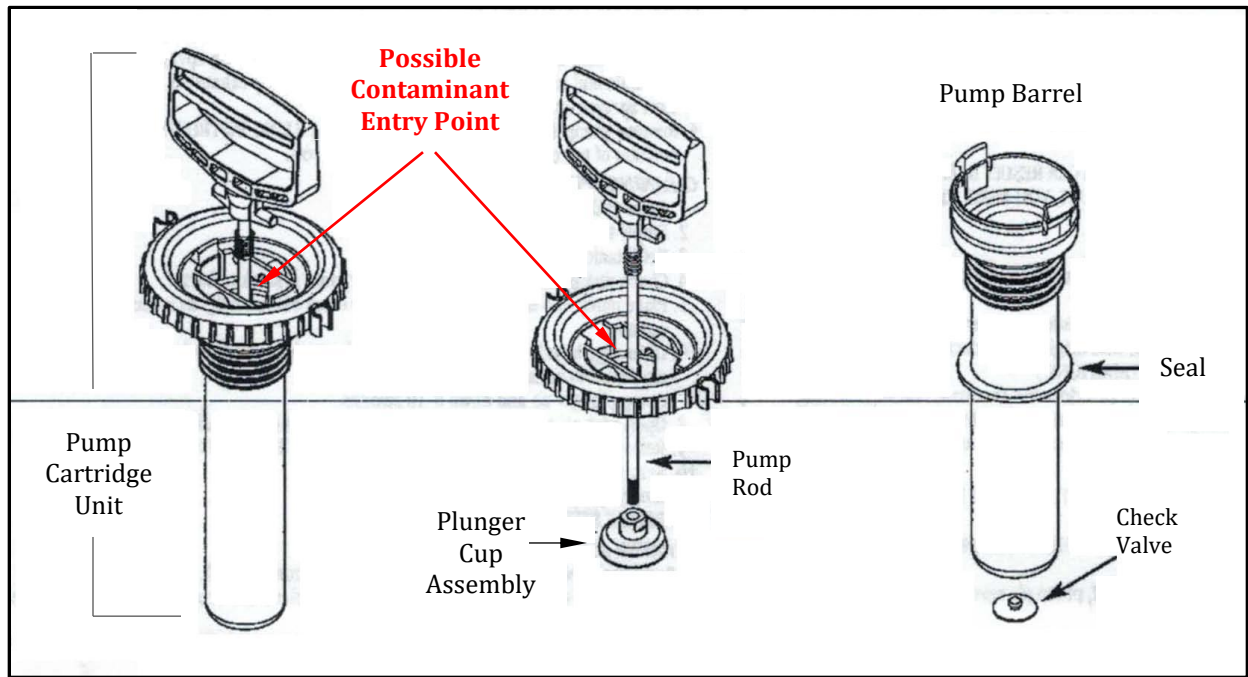

Figure 1
- 1) Remove the pump cartridge and insure there are no foreign objects / liquids in the top of the pump cartridge unit (reference figure 1).
- B. In such a way as to prevent foreign objects / liquids from entering at the top of the pump cartridge (figure 1). When the pump rod is actuated to pressurize the tank, these contaminants can be sucked into the cartridge and pushed into the tank. While the filter will remove solids, it cannot distinguish between other liquids.
| Excessive hissing heard from pump cartridge under pressure | Check integrity of pump barrel seal in figure 1. If found serviceable, lubricate both sides with hydraulic oil or assembly fluid. |
| Fluid is expelled from pump barrel near handle             | Replace pump barrel check valve in figure 1.  |
| Actuation of pump handle fails to pressurize tank          | Check for air leaks, if none found, change plunger cup assembly in figure 1.  |